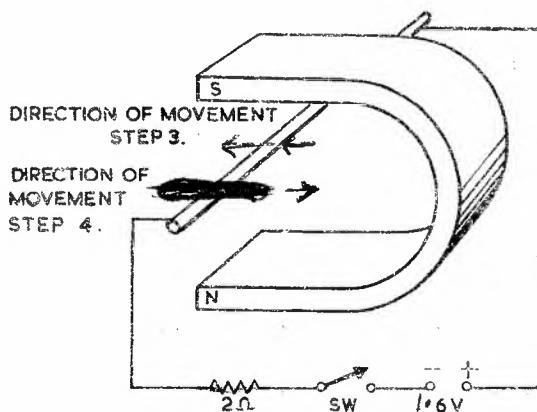

FIG. 1.
STEP 1. Connect the motor-principle model in circuit, as shown in Fig. 1.
Record the direction of conductor movement on Fig. 1.
Record the direction of movement on Fig. 1.